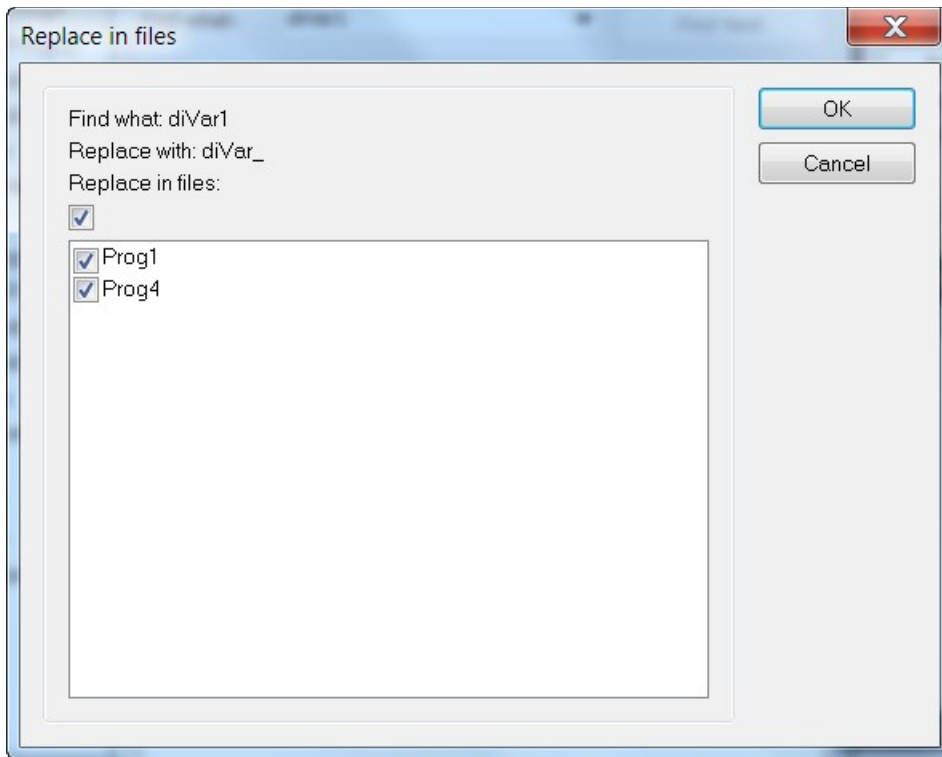

Figure 24: Select the programs where to find or replace a text
- Step 5:** Click '*Replace in Files*' button. A window pops up which allows you to select in which programs of the task to replace the text (Figure 24). Click '*OK*' to replace the text.